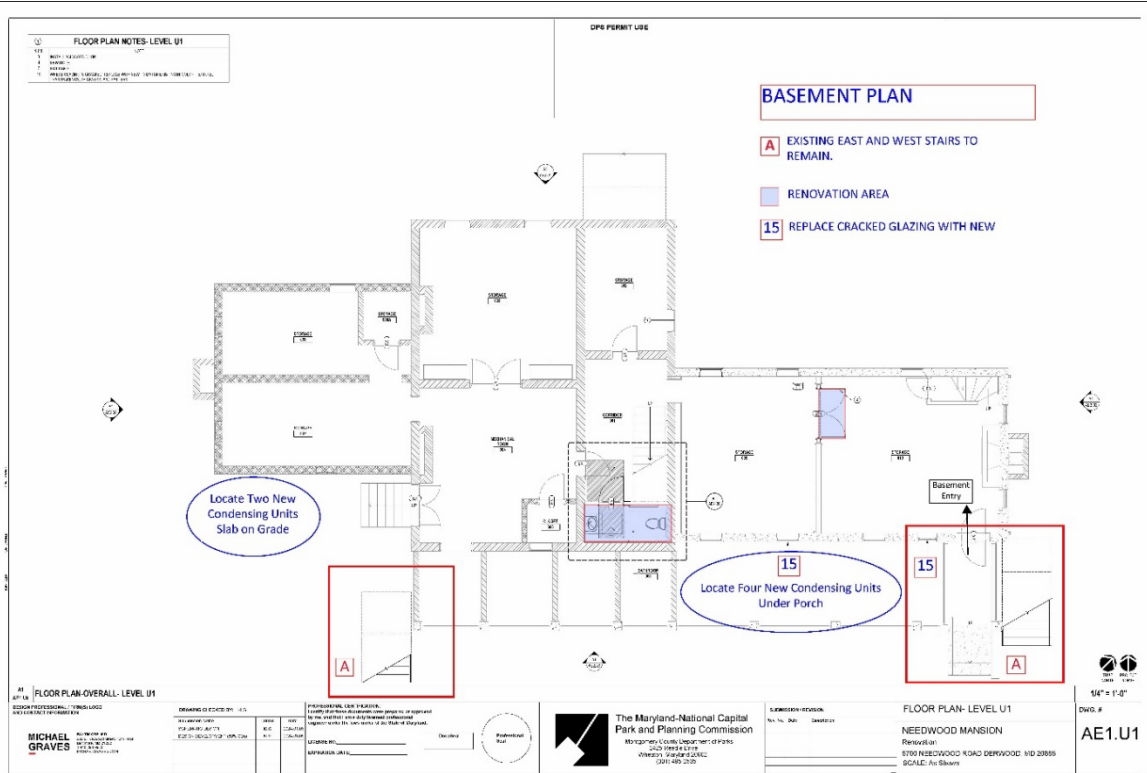

Figure 7: The proposed basement floor plan will include two pads for condensing units.
- Installation of two pads to hold condenser units (**Figure 7**).